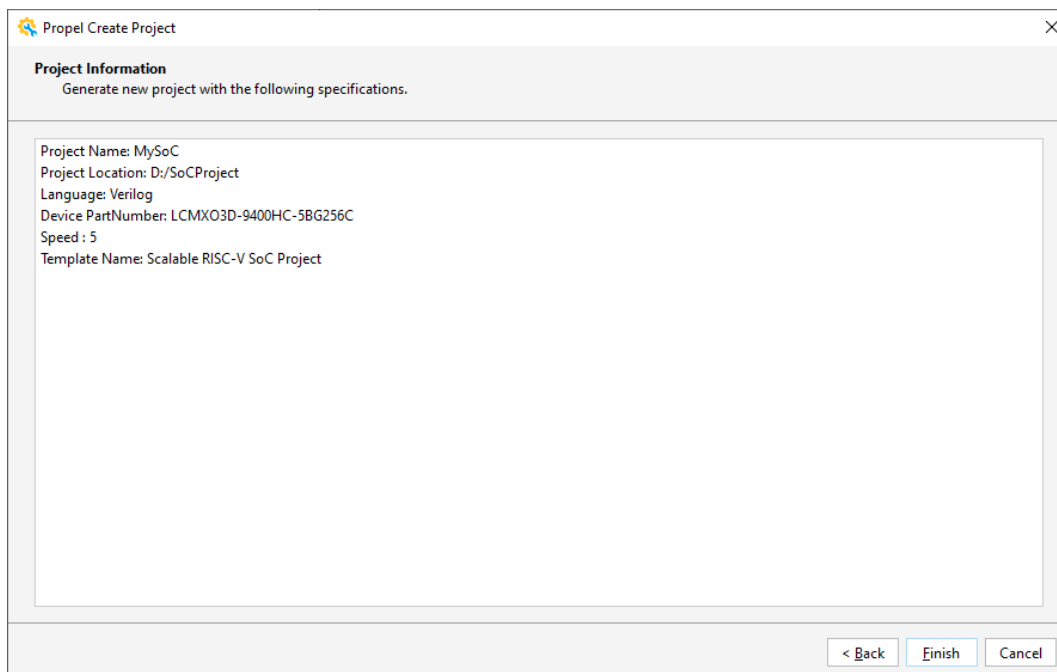

Figure 6.9. Project Information
- Click **Next** to view the project information (Figure 6.9).